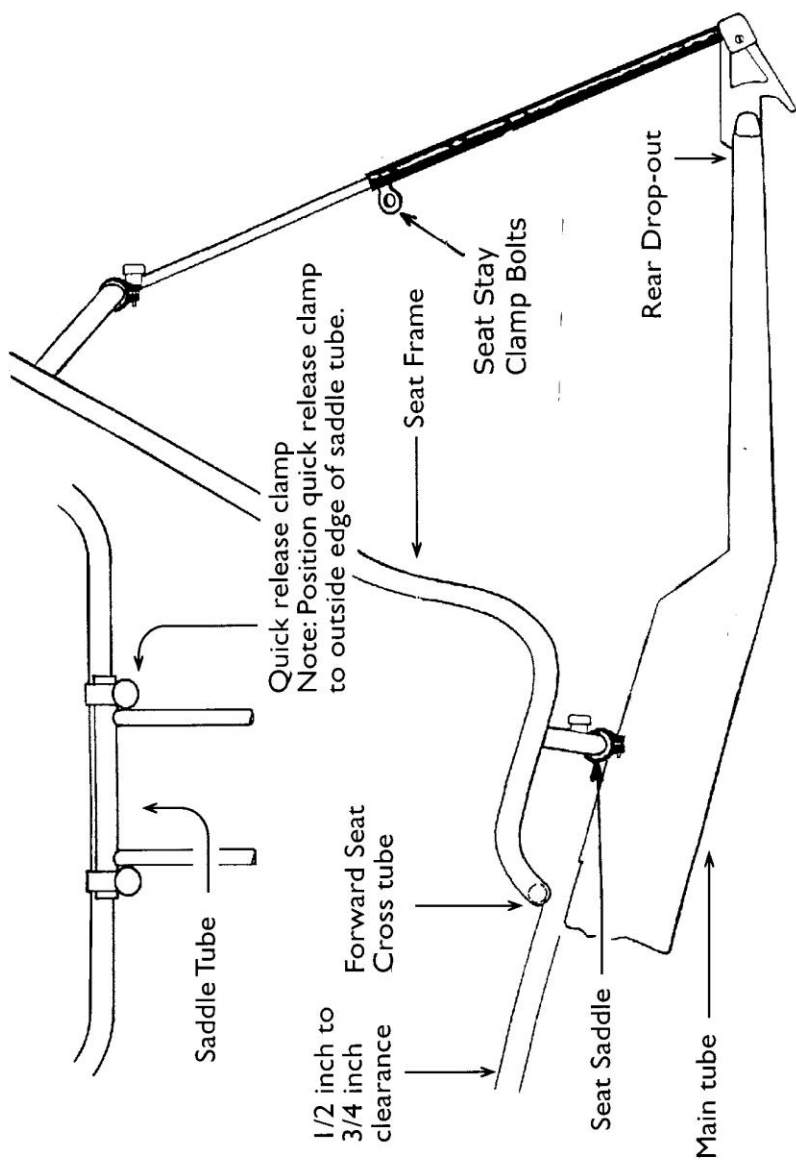

FIG. 1-1
- F) Connect the seat to the frame using the plastic quick release clamps. (See Fig. 1-1).
To adjust the seat back angle (ref. Fig. 1-1):